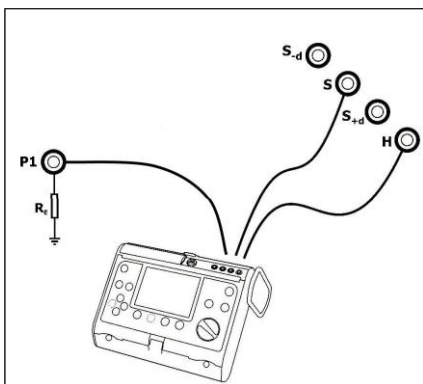

Fig. 7. Connection of the meter
- connect the earth resistance meter (MRU-XXX) to the sockets in accordance with Figure 7,